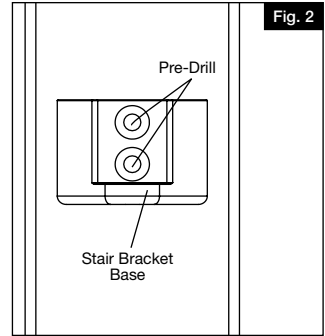

Fig. 2
Place a deck board on the stair noses spanning from post to post. Place the stair panel on the board across the opening and plumb balusters while ensuring equal spacing on each end. Clamp the panel in place at this location (Fig. 2).
- d. Align top and bottom bracket bases with covers attached (Fig. 2) with the holes ensuring that they are square. Fasten bracket bases in place using the non-painted flat head $1\frac{1}{2}$ " screws provided.